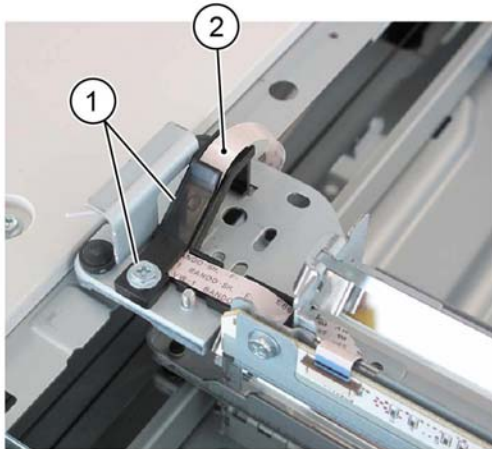

Figure 3 Cable assembly disconnection (1)
6. Disconnect the FFC LED cable assembly from the full rate carriage, **Figure 3**:
- a. Remove the screw, then remove the plate (1).
- b. Disconnect the FFC LED cable assembly (2).